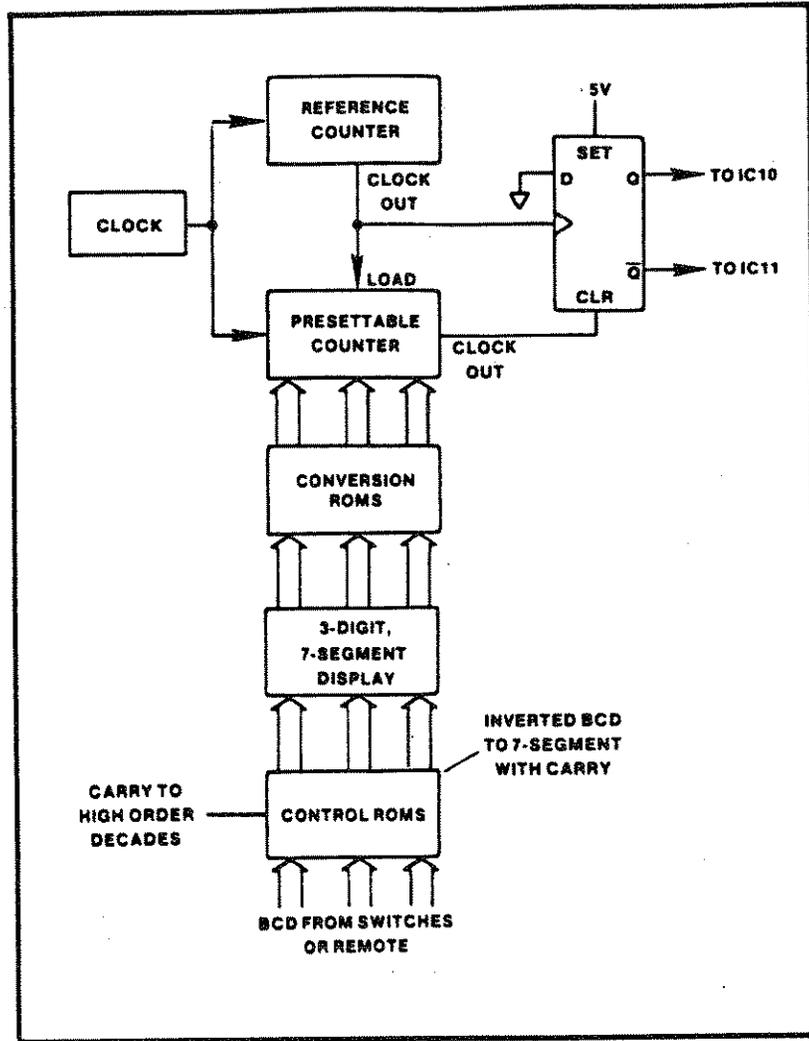

Figure 4-3. Block Diagram, Variable Reference Source.
4.29 There are two variable duty cycle pulse generators in the variable reference circuit. One is controlled by the three highest order switch decades, the other by the low order switch decades. The operation of the latter is typical of both, and will be described in detail. The block diagram of Figure 4-3 shows how the integrated circuits in this section are interconnected.